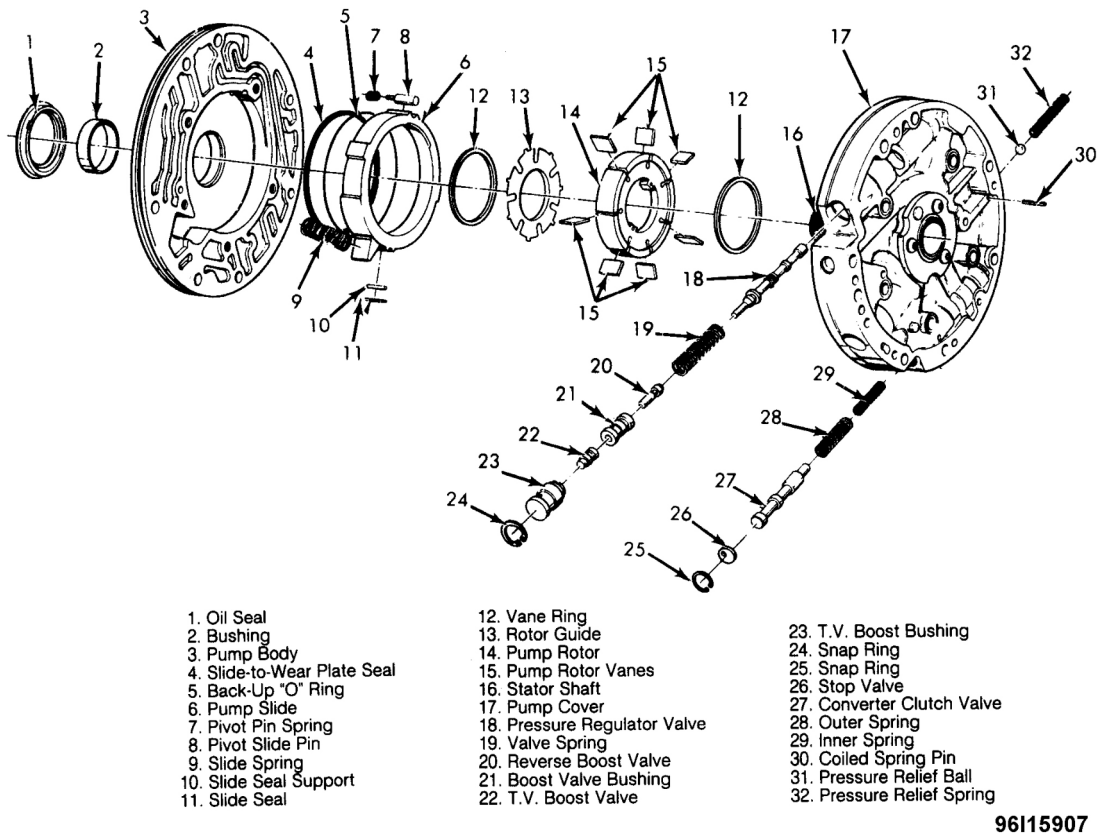

Fig. 30: Exploded View of Pump Assembly
1. Remove pump-to-case seal ring. See **Fig. 30** . Remove pump cover-to-pump body attaching bolts and separate cover from body. Remove stator shaft-to-overrun selective thrust washer.